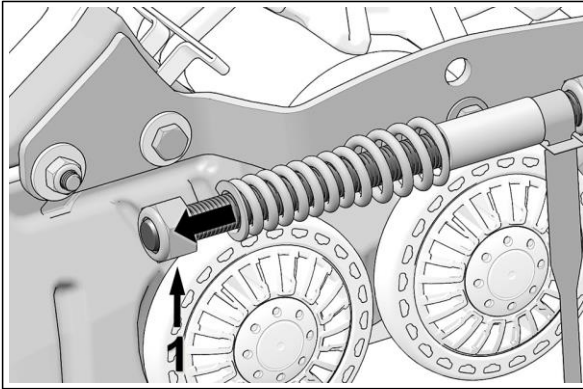

Figure 9
- Loosen the nut (1) compressing the stabilizing rod spring. See Figure 9.